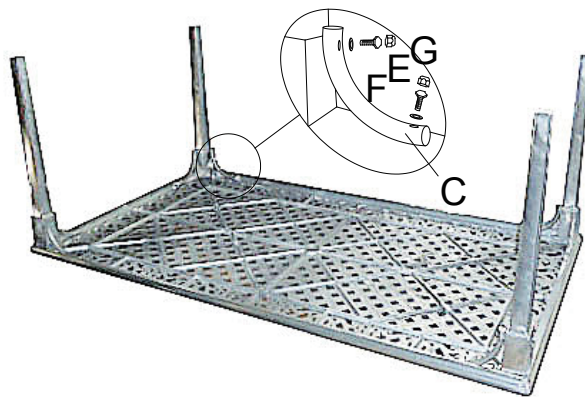

Figure 2
Step 3. Loosely attach the support bar (C) to the table leg (B) and table top (A) with bolts (E) and washer (F) as shown in figure 2.